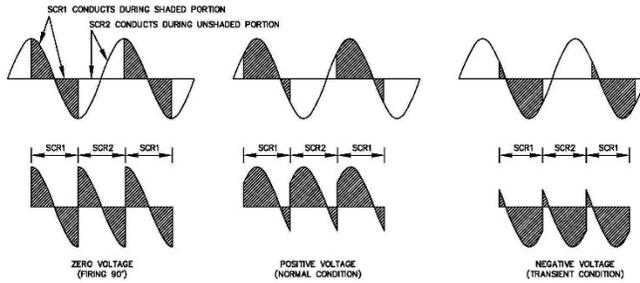

Figure 9. Waveform of Regulator Voltage Output
With a resistive load the current flow through the SCR would cease whenever the voltage from anode to cathode is no longer positive at the anode. With an inductive load, such as an exciter field, the current continues to flow even though the supply voltage has reversed. This has been referred to as inversion, i.e., energy stored in the inductance is fed back into the ac supply line. This circuit has the advantage of being able to decrease, as well as increase, current very rapidly. The ability to decrease current under transient conditions (instead of letting it decay at a rate determined by its field time constant) results from the negative voltage that can be applied to the field. This can only be done as long as there is current flowing in the circuit. Notice that current does not reverse, it can only flow through the SCR's in the forward direction. Fig. 9
- Set the voltage range adjusting rheostat R23 on the printed circuit (PC) board to position 0 (zero). See Figure 9 for view of typical PC board.